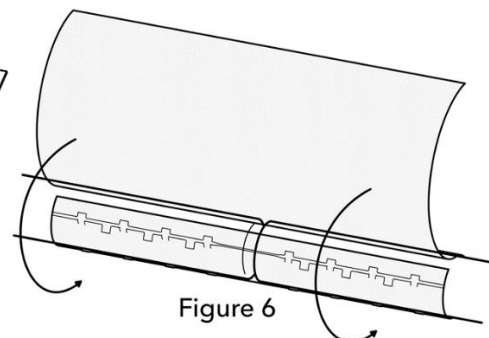

Figure 6
- 8.10 Next, engage remaining microhooks and continue entubulation by wrapping the longer leaf of the device around the approximated nerve stumps (Figure 6).